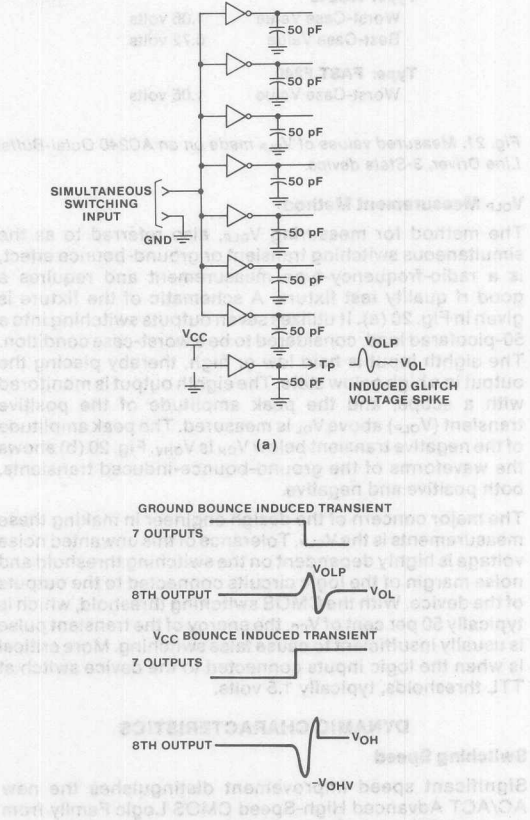

Fig. 20. Test circuit (a) and waveform (b) of simultaneous switching transient.
1. If n outputs switch and one output is a steady-state low, the  $V_G$  will reflect on to the unswitched output as the peak low-level output voltage  $V_{OLP}$ , as shown in Fig. 20 (b) for an eight-output device.
The method for measuring  $V_{OLP}$ , also referred to as the simultaneous switching transient or ground-bounce effect, is a radio-frequency-type measurement and requires a good rf quality test fixture. A schematic of the fixture is given in Fig. 20 (a). It utilizes seven outputs switching into a 50-picofarad load, considered to be a worst-case condition. The eighth input is held low or high, thereby placing the output in a high or low state. The eighth output is monitored with a scope, and the peak amplitude of the positive transient ( $V_{OLP}$ ) above  $V_{OL}$  is measured. The peak amplitude of the negative transient below  $V_{OH}$  is  $V_{OHV}$ . Fig. 20 (b) shows the waveforms of the ground-bounce-induced transients, both positive and negative.